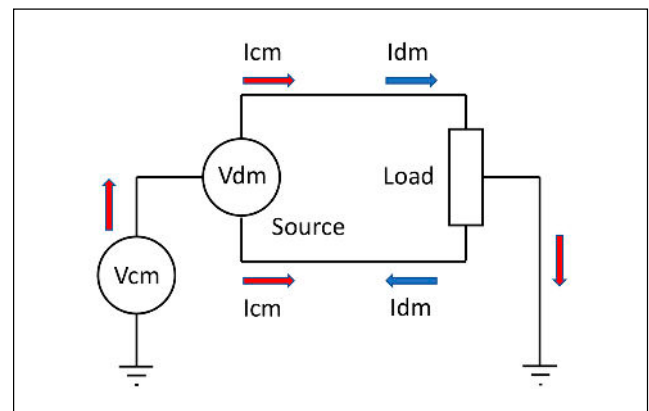

Figure 2: Types of noise that can be present
Conducted noise is of two types, Differential Mode (DM) and Common Mode (CM), which are usually present together at some level. DM noise is measured as a voltage between a power line and its return. CM noise is measured between both power lines and system ground and is normally recorded as a voltage across a defined impedance. This is because power converters tend to operate as a current source for CM noise at high frequencies. *Figure 2* shows the two types diagrammatically.